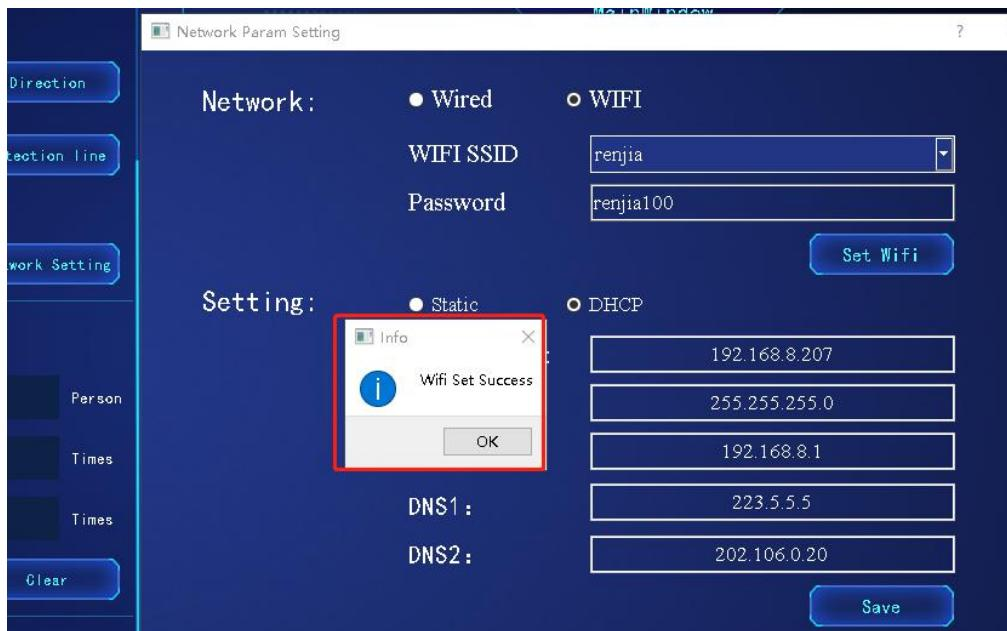

Figure 2-51 Example of successful WIFI verification
- After about 10 seconds, a wifi setting result prompt box will pop up, as shown in Figure 2-51. If the verification is successful, you can go to the next step, otherwise check whether the wifi password is correct and reset it.